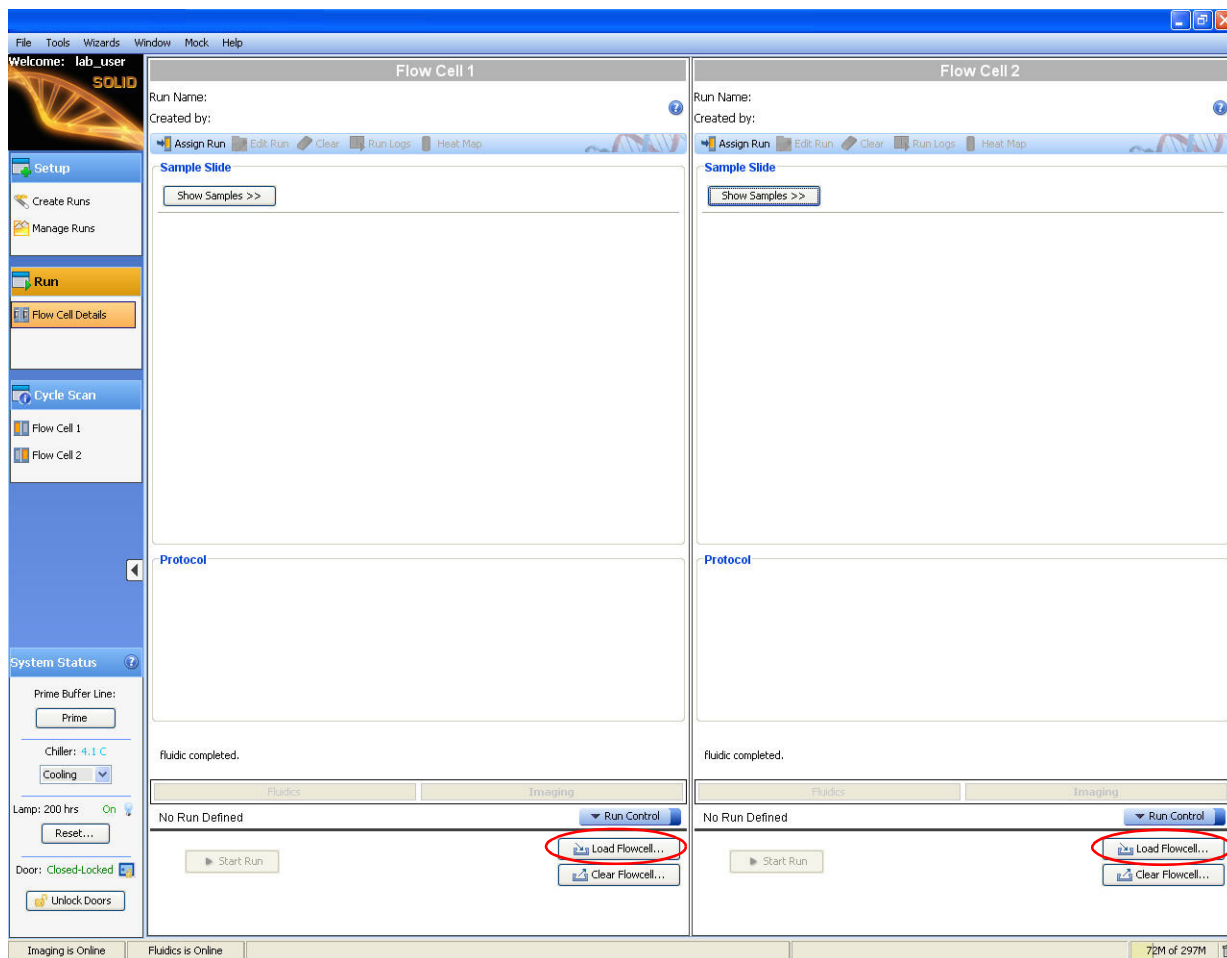

Figure 23 Click **Load Flowcells** to load the flowcell with buffer.
10. Click the **Load Flowcells** button located at the bottom of the flowcell panel. Each flowcell has its own Load Flowcells button (see Figure 23 on page 29).